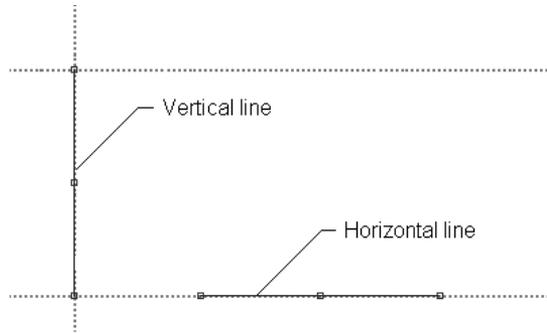

Figure 2-6 Vertical and horizontal keypoint lines created
1. If you specify the endpoint of the line by using the middle mouse button; a horizontal keypoint line will be created, as shown in Figure 2-6.
2. If you specify the endpoint of the line by using the right mouse button; a vertical keypoint line will be created, refer to Figure 2-6.